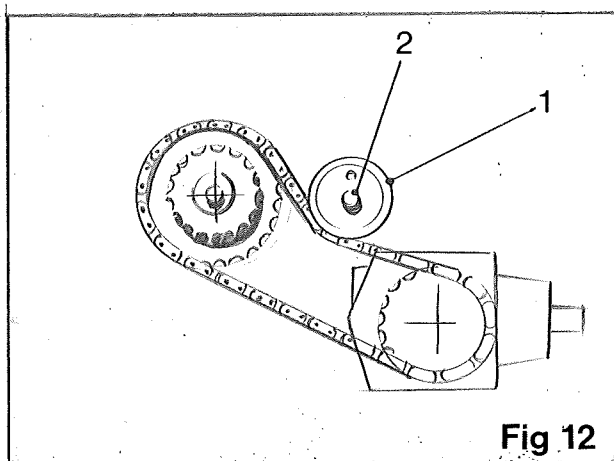

Fig 12
The digger web is driven by two sprockets and a drive chain. The chain is tensioned by a tensioner block (item 1, fig 12). To adjust, loosen the securing bolt (item 2, fig 12) and slide the block to increase or decrease the tension. Once the correct tension has been achieved, resecure the block. Additional adjustment can be obtained by repositioning the securing bolt (item 2, fig 12) into the alternative hole in the tension block (item 1, fig 12).